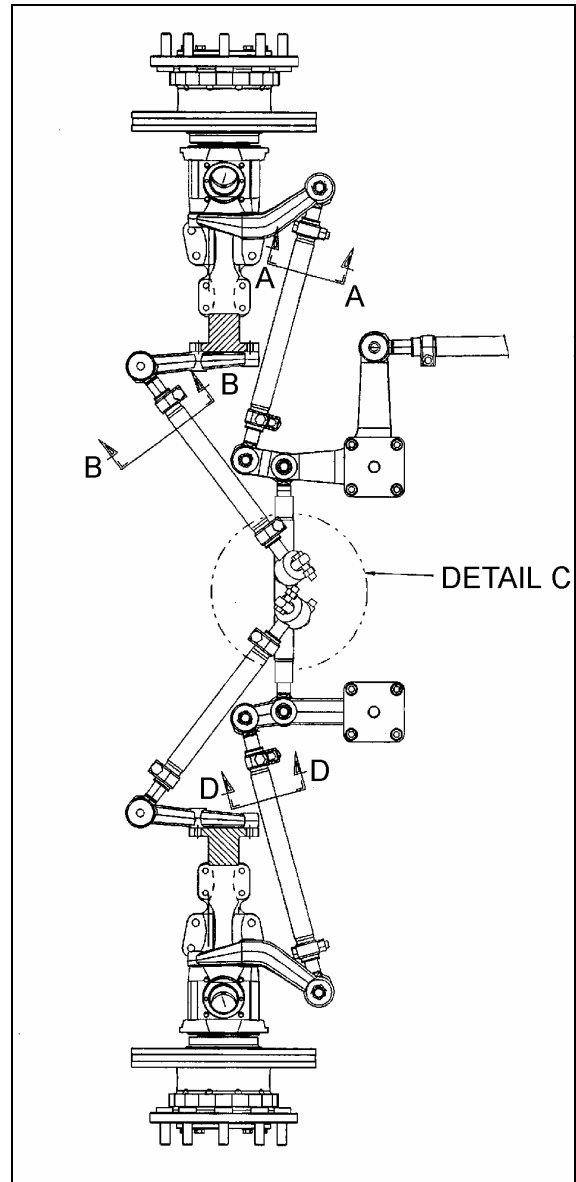

FIGURE 2: LOCATION OF CLAMPS
| FIGURE 2: LOCATION OF CLAMPS..... | 16(IFS)-5 |
2. For a full left and right turn, check clamps' position and for interfering parts. Refer to figures 2 to 6 for location and positioning of clamps. If readjustment is required, make the proper adjustment.